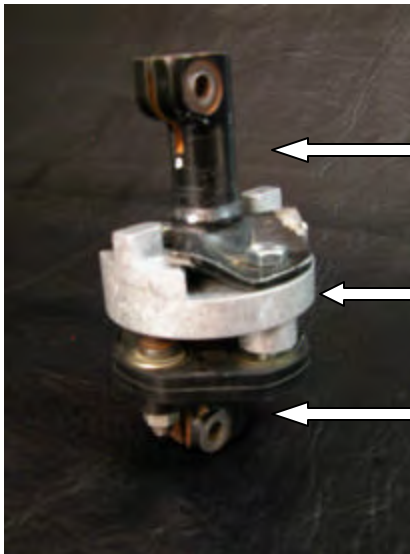

Figure 2.
- Remove the 12mm bolts and nuts from the upper steering coupler on the rack and pinion noting the position of the steering column. Note: do not let the steering column turn, keep the column and rack aligned to its original position, mark if necessary. See figure 2.
- Install the supplied aluminum steering coupler with the round bosses pointing down. Note: you may have to loosen the pinch bolt at the top of the steering coupler so that it will slide up enough to install the steering coupler. See figure 2.